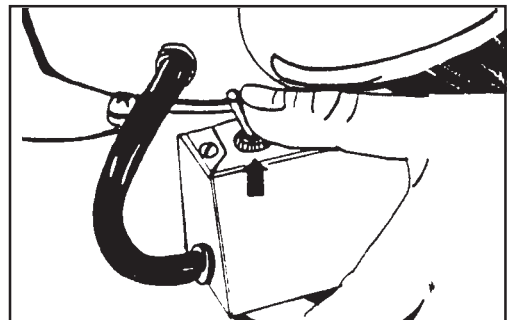

Figure 4
4. Put the variable speed switch in the "HI" position (1). See figure 4. After reaching full speed, put the switch in the "LO" position if low speed is needed.